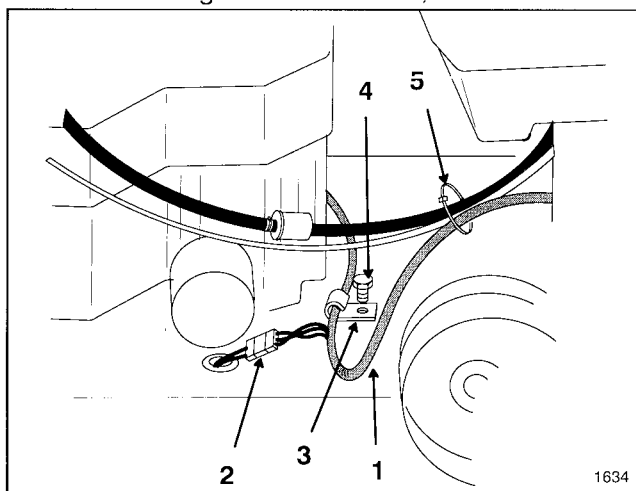

Figure 7
1. Route wire harness down inside left handle, under fuel tank bracket and behind engine. (Fig. 7).
2. Plug clutch connector, coming up through frame at side of engine, into wire harness (Fig. 7).
3. Secure wire harness to frame behind engine with cable clamp, just past clutch connector lead (Fig. 7).